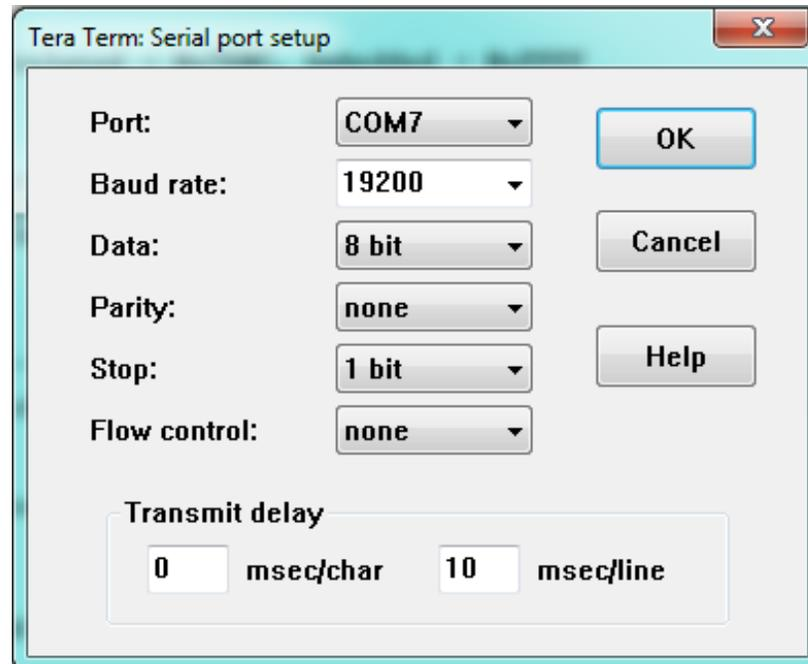

Figure 3: Serial Port Settings
- Once the hex file has been created, open **Tera Term**. From the Setup dialog box, select the correct **Port...** and set the port to the following settings (Figure 3).